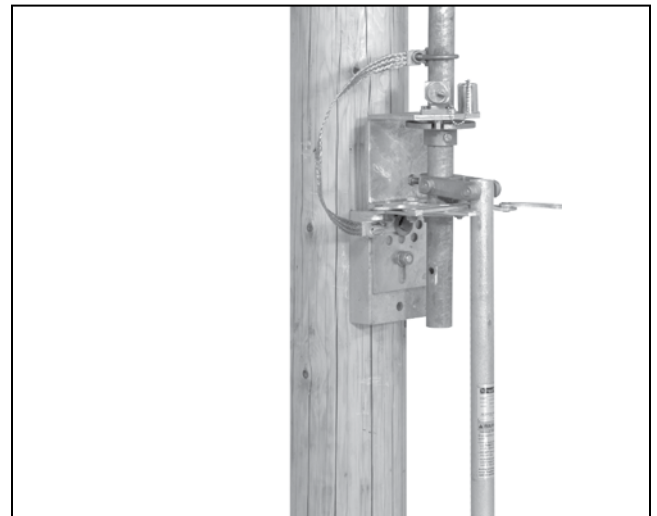

Figure 54. Disengaging the key interlock bolt.
- (a) If the operating handle assembly is furnished with a key interlock, disengage the interlock bolt. See Figure 54.